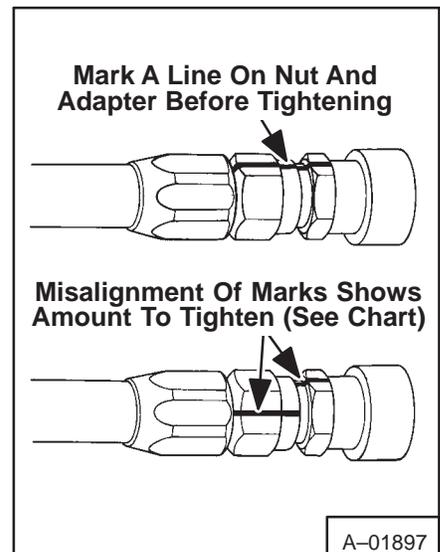

Fig. 2-4 Tightening Flared Fittings
2. Make a line from the nut to the adapter (Fig. 2-4).